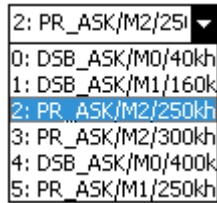

Figure 9
1. Link Profile: Sets the current link profile for the reader module, as figure 9. The option is as follows: